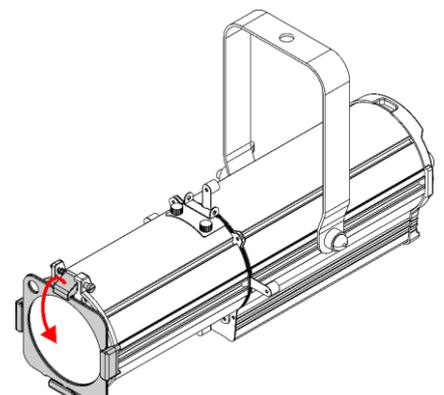

Fig. 08
- 04) Pull the **color frame clip (06)** downwards to release the **spring-loaded screw (07)** (see Fig. 08). The color frame will be locked in position.